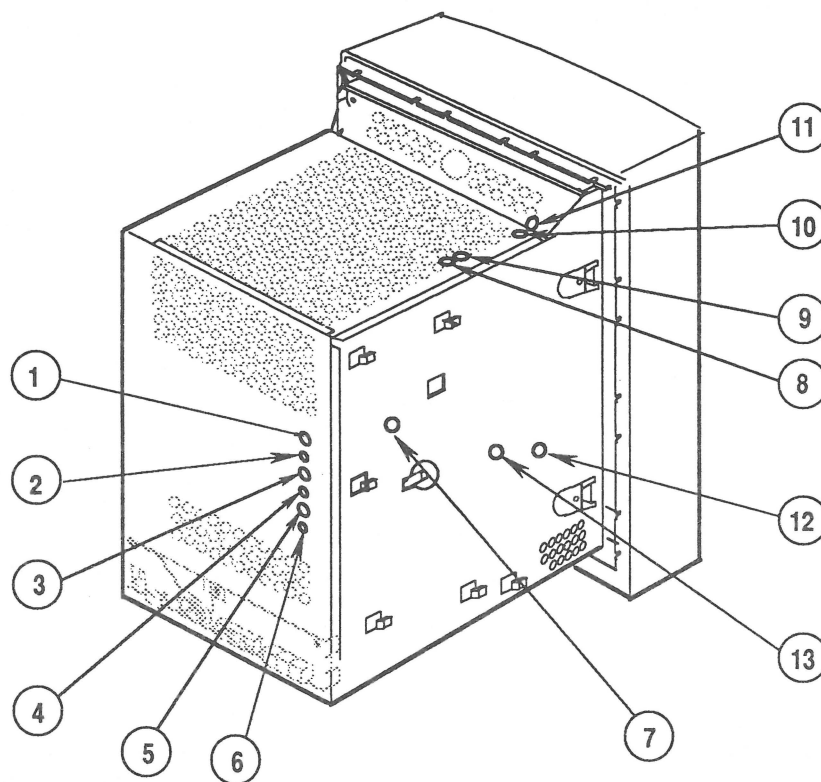

FIGURE 4
- H.CENT (Figure 4, #1)
- H.PHASE (Figure 4, #2)
- HEIGHT (Figure 4, #3)
- V.LIN (Figure 4, #4)
- V.CENT (Figure 4, #5)
- SIDE.PIN (Figure 4, #6)
- H.SIZE (Figure 4, #7)
- SCREEN (Figure 4, #8)
- FOCUS (Figure 4, #9)
- V.FOCUS (Figure 4, #10)
- H.FOCUS (Figure 4, #11)
- H.HOLD (Figure 4, #12)
- V.HOLD (Figure 4, #13)
Note: The H.HOLD and V.HOLD controls (Figure 4, #12 and #13) are preset at the factory and do not need readjusting.